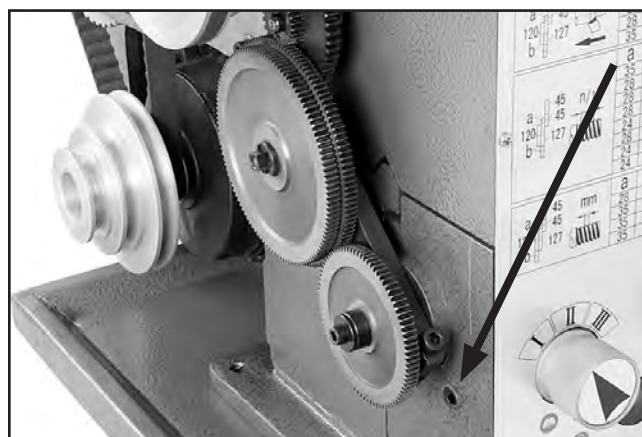

Figure 80. Feed rate gearbox oil reservoir drain plug.
4. Hold the drain pan under the reservoir drain plug, then remove the drain plug shown in **Figure 80**, and allow the oil to completely drain into the pan.